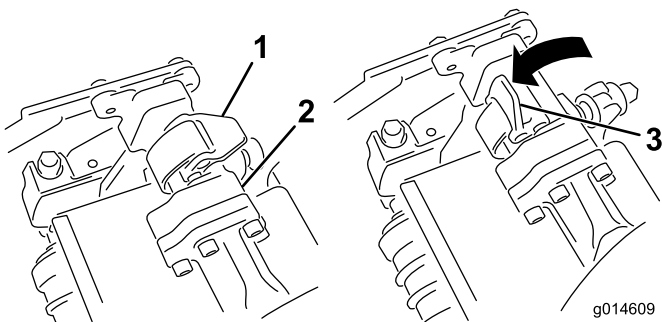
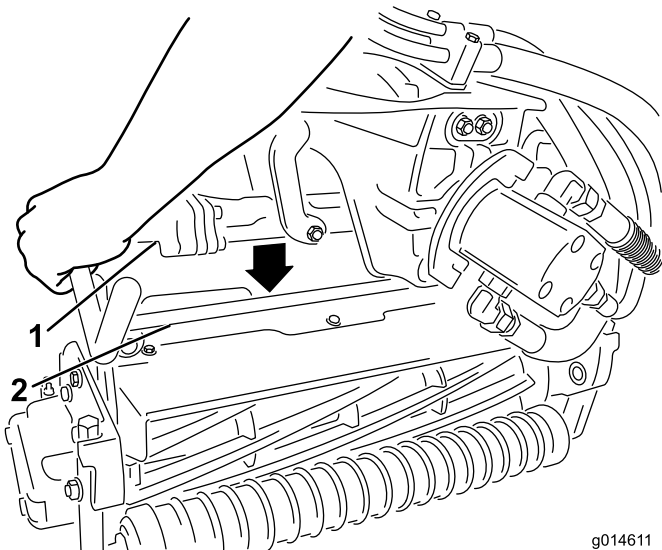

Figure 12
Figure 13
5. With the latches on the suspension-arm bar pointing up (i.e., open) (Figure 12), push the suspension arm down so that the bar fits over the bar across the top of the cutting unit (Figure 13).
6. Close the latches down and around the cutting-unit bar and lock them in place (Figure 12).